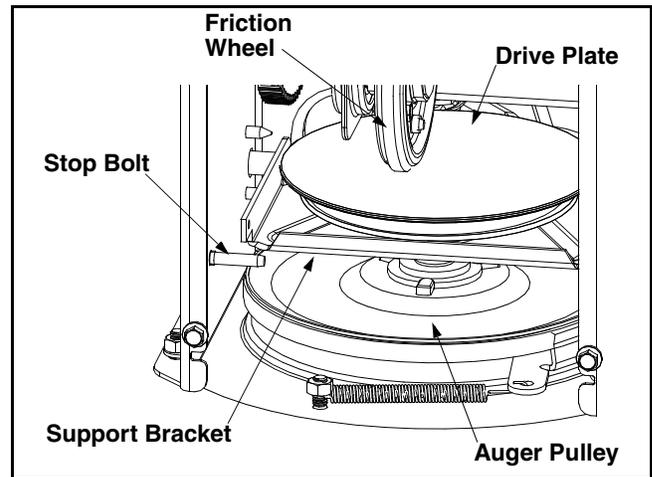

**Figure 16**
- Unhook the idler spring from the hex bolt on the auger housing. See Figure 16.